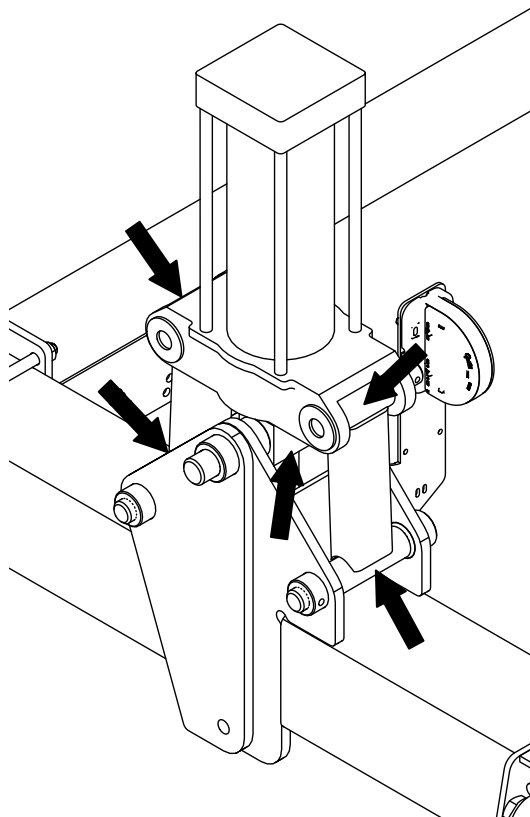

Figure 22 Folding Toolbar Components
1. Lubricate top and rear folding toolbar component zerks (Figure 22)